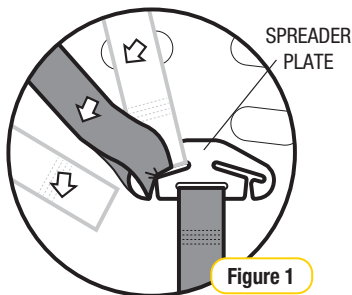

Figure 1
- Step 2:** Remove each shoulder harness through the gates in the spreader plate (refer Figure 1 & 2).